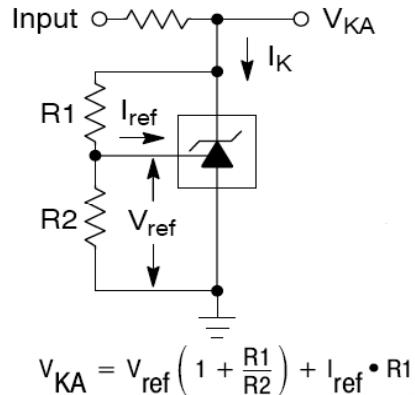

Figure 2: $V_{KA} > V_{ref}$
| Ratio of change in Vref to change in cathode Voltage | ΔVref/ΔVka | Ik=10mA, Vka = 18V to Vref (Figure 2) | -- | -1.0 | -2.7 | mV/V |
| Reference Input current | Iref | R1=10KΩ, R2=∞, Ik=10mA Ta= full range (Figure 2) | -- | 0.25 | 0.5 | uA |
| Deviation of reference input current, over temp. | ΔIref | R1=10KΩ, R2=∞, Ik=10mA Ta= full range (Figure 2) | -- | 0.04 | 0.08 | uA |
* When the device operating with two external resistors, R1 and R2, (refer to Figure 2) the total dynamic impedance of the circuit is given by: